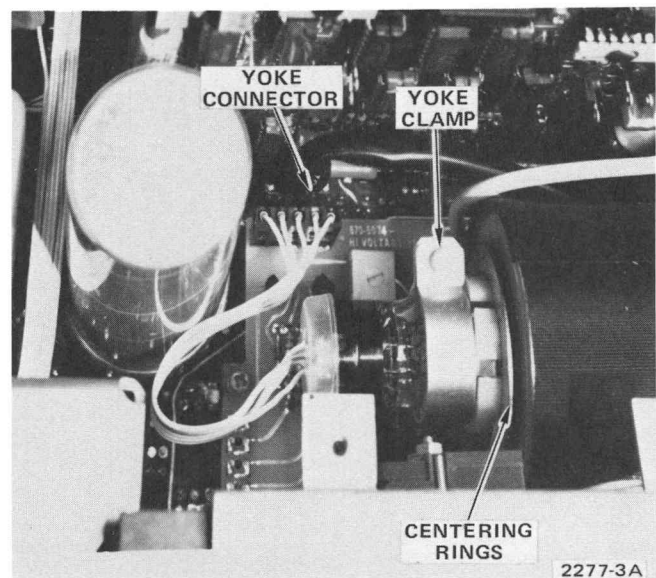

Figure 5-5. Yoke clamp, yoke connector (P1690), and centering rings.
b. Loosen yoke clamp (Fig. 5-5).